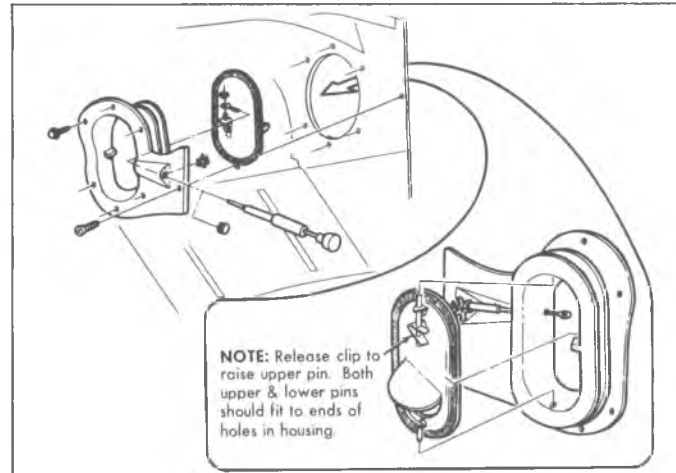

Fig. 12—Cowl Vent Valve
**COWL VENT VALVE—FIGURE 12****Replacement**
The entire vent valve assembly may be removed from the vehicle by removing attaching screws shown in figure 12.